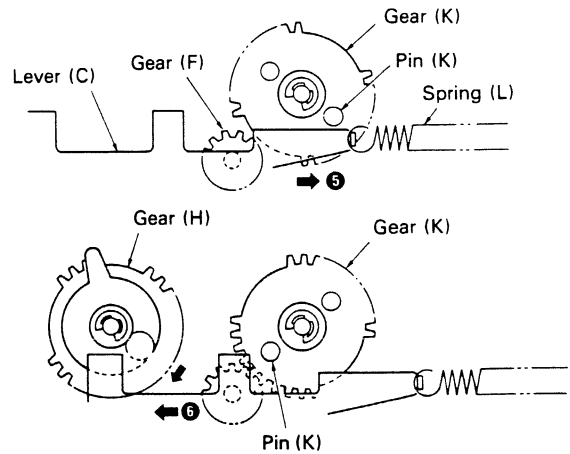

Fig. 33
4. As lever (C) moves in the direction indicated by arrow ⑤ in Figure 33, pin (K) on gear (K) falls into the notch on lever (C). Gear (K) begins to turn as it meshes with gear (F). As gear (K) turns, pin (K) pushes against the catch on lever (C), pushing lever (C) in the direction indicated by arrow ⑥. Just before pin (K) ceases pushing against the catch on lever (C), the pin on gear (H) takes over and continues to push against lever (C). The head base begins to move as described under the section entitled "Play Mechanism."